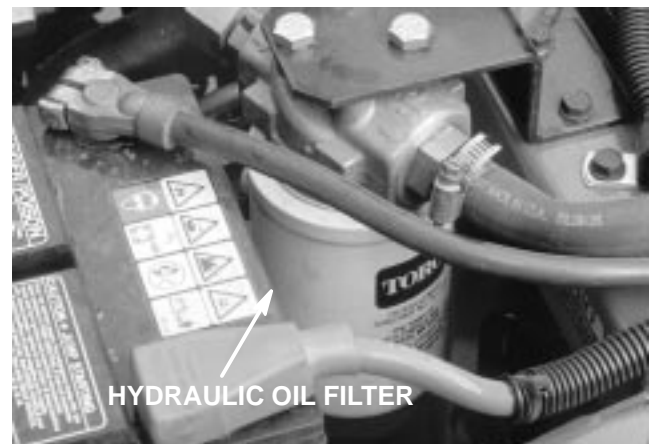

Figure 66
3. Clean oil filter mounting area. Remove filter and drain into a suitable container. Discard filter (Fig. 66).